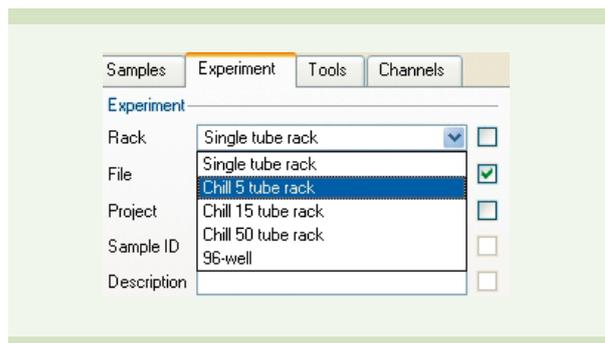

Figure 1: Selecting a Chill 5 tube rack.
3. Place a pre-cooled Chill 5 Rack onto the MACS MiniSampler and select **Chill 5 tube rack** from the **Rack** drop-down menu (figure 1). Make sure the large rack template opens in the center of the display. If it does not, open it by clicking on the  icon.